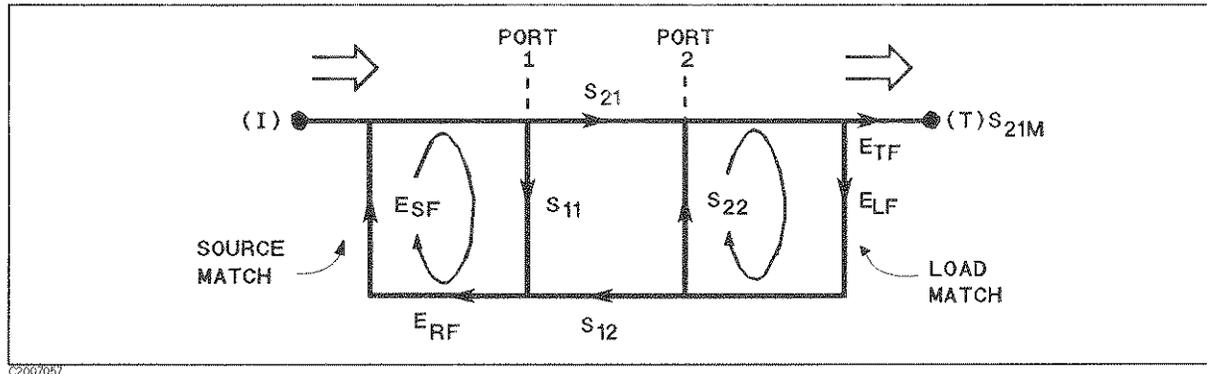

Figure 7-37. Load Match  $E_{LF}$
**Load Match Error.** As in the reflection model source match can cause the incident signal to vary as a function of test device  $S_{11A}$ . Also, since the test setup transmission return port is never exactly the characteristic impedance, some of the transmitted signal is reflected from the test set port 2, and from other mismatches between the test device output and the receiver input, to return to the test device. A portion of this signal may be re-reflected at port 2, thus affecting  $S_{21M}$ , or part may be transmitted through the device in the reverse direction to appear at port 1, thus affecting  $S_{11M}$ . This error term, which causes the magnitude and phase of the transmitted signal to vary as a function of  $S_{22A}$ , is called load match,  $E_{LF}$  (Figure 7-37).